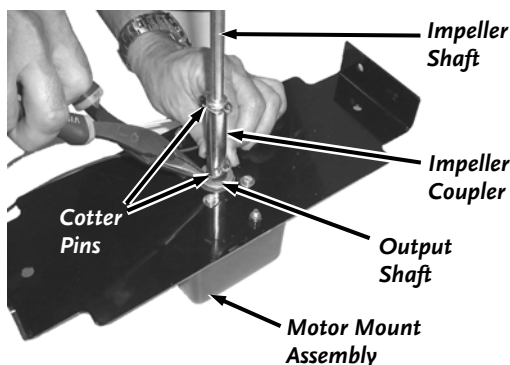

Figure 7
7. Position the Impeller Coupler over the Output Shaft of the Motor Mount Assembly and secure with 1/8" x 1-1/4" Cotter Pin (**Figure 7**).